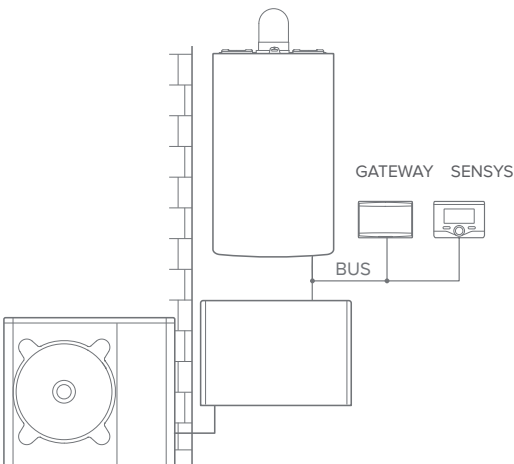

fig.8
Actions required (Fig. 8):
2. Attach to the plate, pressing along the sides (Figure 8);